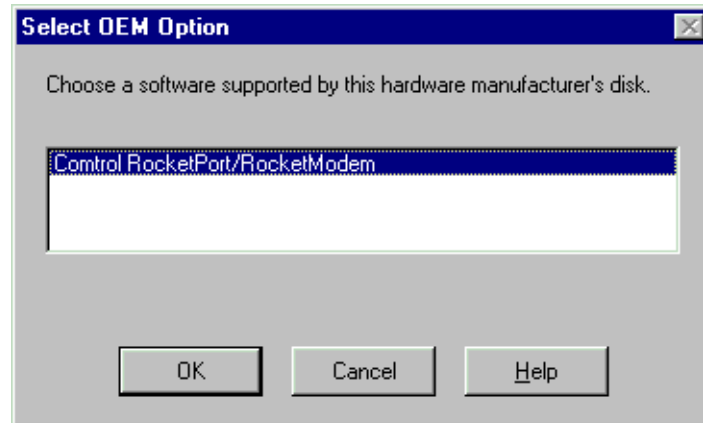

Figure 3. Select the RocketPort driver.
7. The Select OEM Option dialog box appears (see Figure 3). Ensure that the Control RocketPort RocketModem is selected, then click **OK**.